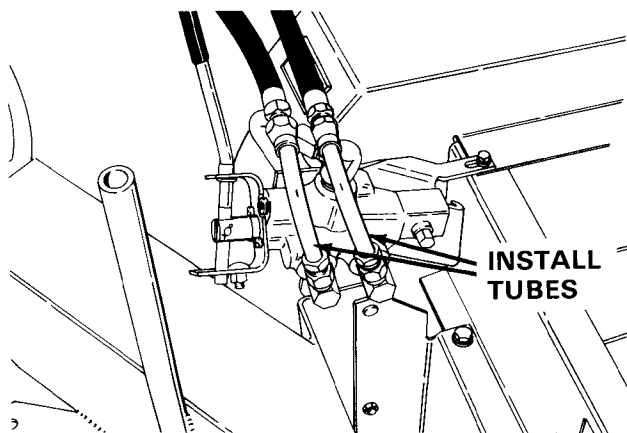

FIGURE 15
1. Install tubes to PTO valve as shown in figure 15.